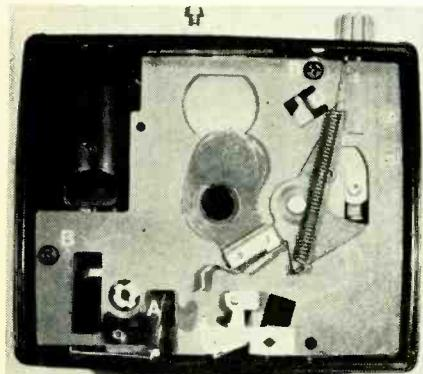

Fig. 1—Rear of the modified shutter. (A) is battery contact, (B) marks two screws holding shutter together. Lens opening is in the center of the plate.
To get to the shutter, first open the back of the camera and remove the battery compartment. Three small Phillips-head screws hold the lens-shutter housing to the rest of the camera. Two of them are chrome, and the other is black. Removing all of them lets the front of the camera drop off. Place the front housing on a clean cloth so the lens will not be scratched. Remove the plastic rear cover plate and the flashbulb ejector from the back of the shutter housing. You should now see something like Fig. 1,
Although Fig. 1 shows the completely modified mechanism with the shutter open, it also illustrates the next operation. Remove the two screws at B. Grasp the tab at C with needle-nose pliers and pull gently upward until the plate snaps free. Then slide the plate out from under the battery contact at A, and turn it over.
Put the pieces back together, pressing in at C (Fig. 1) to snap the plate back on. Install the screws. Press the shutter release a few times
to check for binding inside. If there is some scraping or binding, take the shutter apart again. Binding may be corrected by one of three methods: (1) filing the threads off the stop screw where it is inside the housing, (2) filing some more off the bent part of the shutter leaf, or (3) using thin shims or washers between the metal plate and plastic housing under the two screws at B in Fig. 1.